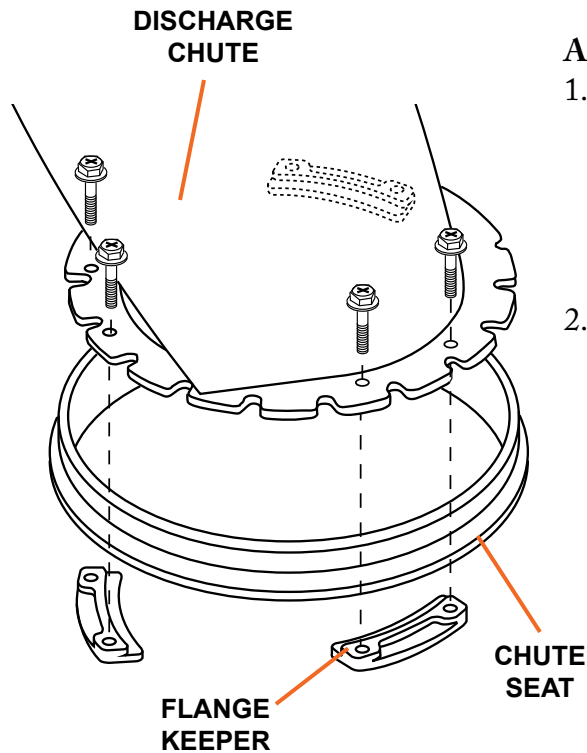

Figure 5
1. Attach the discharge chute to the snow blower by placing it on the chute seat on the snow blower. Position the flange keeper beneath the chute seat lip. Align the two holes in the chute and two holes in the flange keeper and secure with two bolts from the top side (see Figure 5). Repeat in three locations to attach the discharge chute to the snow blower.